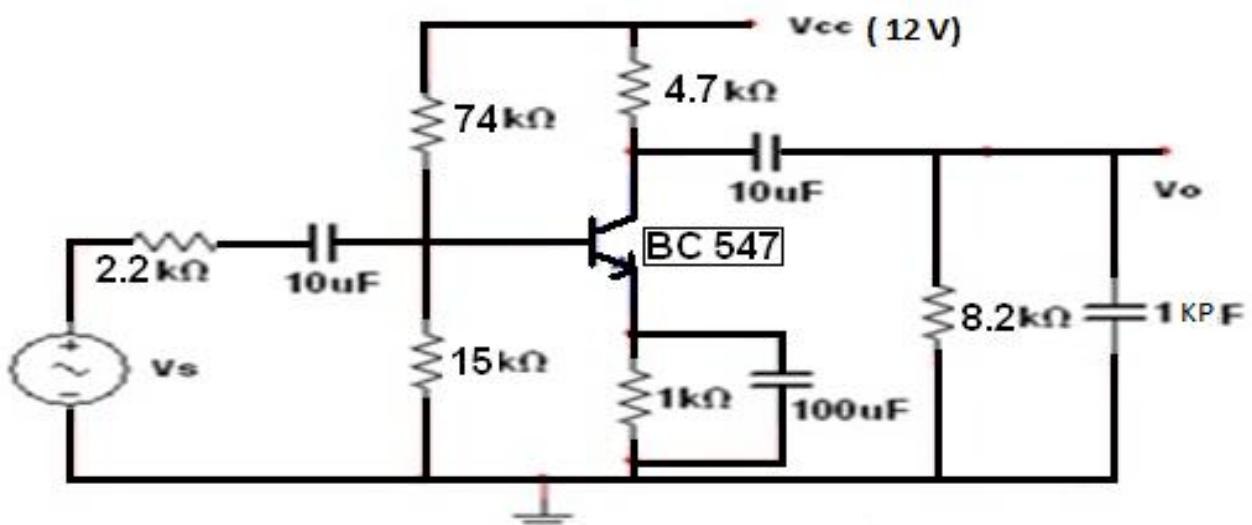

Fig. 1: CE BJT Amplifier
1. Connect the circuit as shown in fig.1, Set source voltage as 50mV P-P at 1 KHz frequency using the function generator.